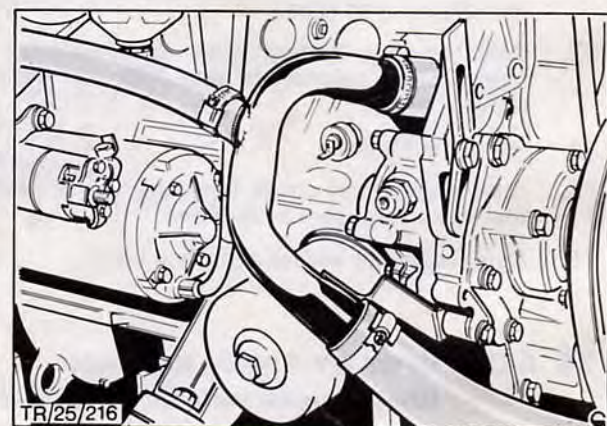

Fig. 24. Heater hose
6. On Diesel variants, disconnect heater outlet hose from centre metal section of pipe in bottom hose, Fig. 24.
7. Disconnect bottom hose from pump location. Remove bolt securing metal pipe section to cylinder block Fig. 24, and detach bottom hose assembly complete.